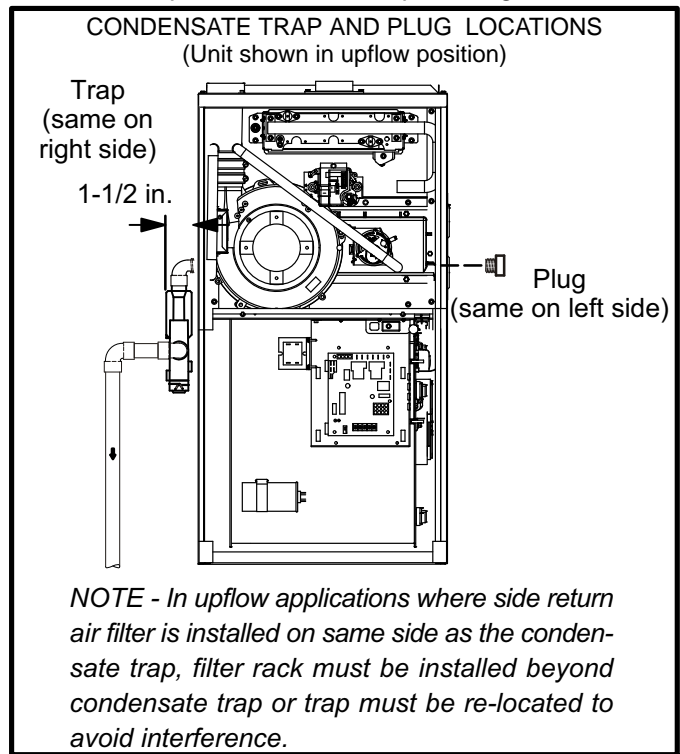

FIGURE 44
Refer to figures 44 and 45 for condensate trap locations. Figure 52 shows trap assembly using 1/2" PVC or 3/4" PVC.
- 2 - Use a large flat head screw driver or a 1/2" drive socket extension and remove plug (figure 44) from the cold end header box at the appropriate location on the side of the unit. Install provided 3/4 NPT street elbow fitting into cold end header box. Use Teflon tape or appropriate pipe dope.